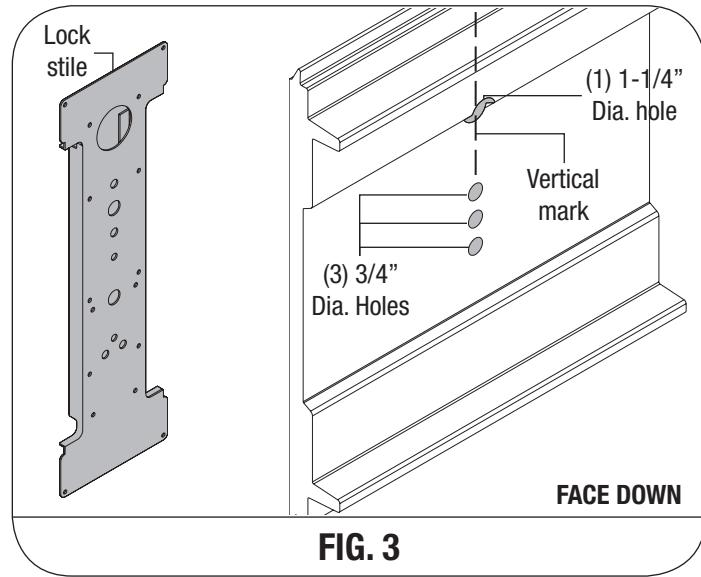

FIG. 3
**5120/5140/9100/9400 & 9600 DOORS, (SEE FIG. 3):** Place the lock section face up on (2) padded sawhorses for a single car door or (3) padded sawhorses for a double car door. Locate the middle of the center stile, measure the distance from the end of the section to the middle of the center stile. Turn the section face down, transfer the measurement and mark a light vertical line. Align the center of the lock stile with vertical mark, use the lock stile as a template to mark the (4) holes, remove the lock stile and drill the (3) bottom holes to  $3/4$ " diameter and the top hole to  $1-1/4$ " diameter, drilling all (4) holes completely through the section.